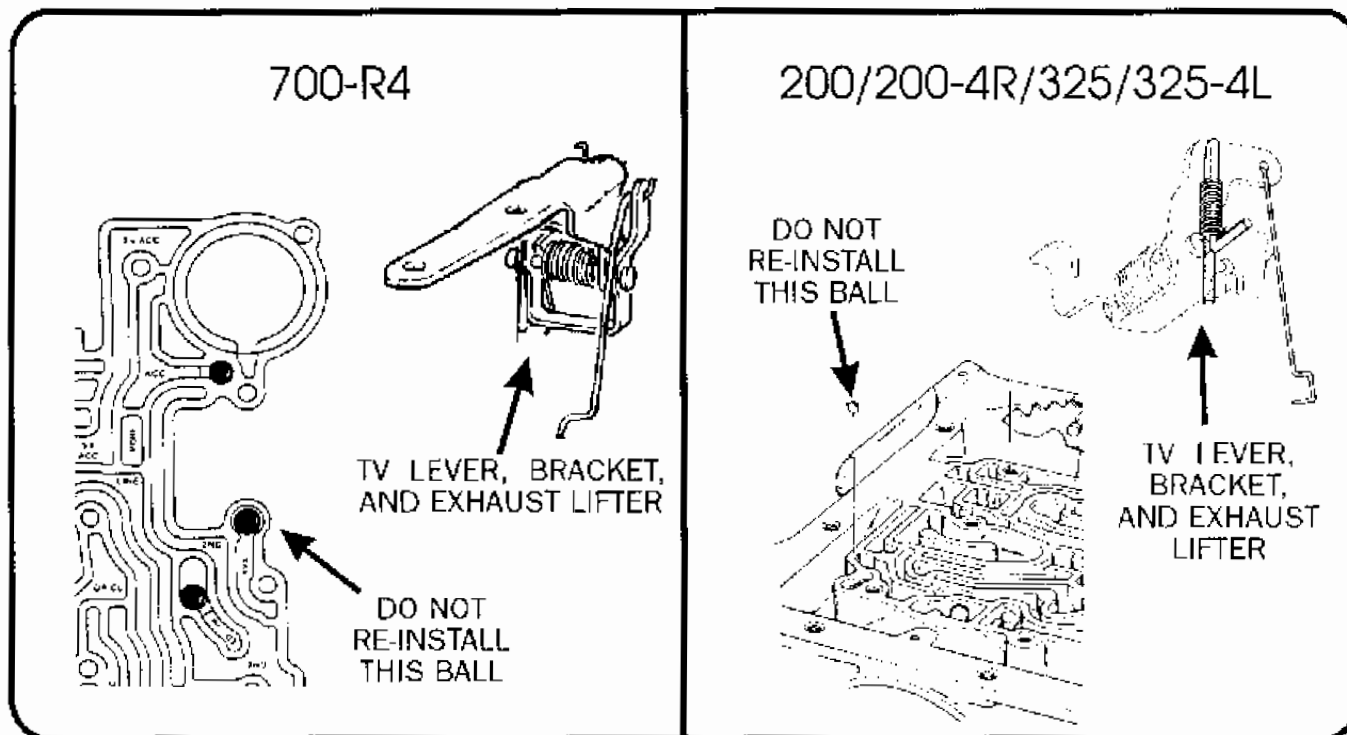

Figure 1
- CAUSE:** The TV exhaust lifter on the Throttle valve linkage may not be keeping the TV exhaust ball (See Figure 1) off of its seat. This ball will cause high line pressure and late shifts if it is permitted to block the metered exhaust passage in the valve body.